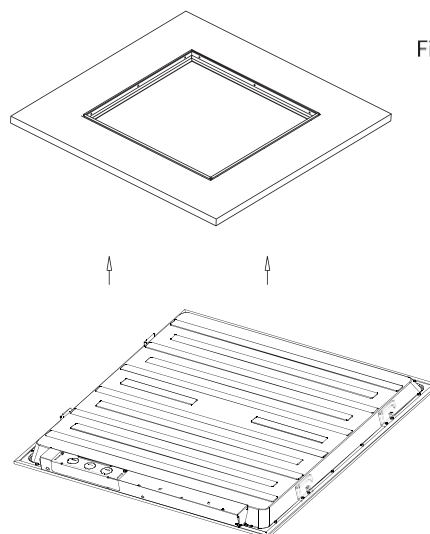

Figure 6
- Wire and insert fixture into ceiling and maneuver into place just as in a grid ceiling to complete installation.(Figure 6)